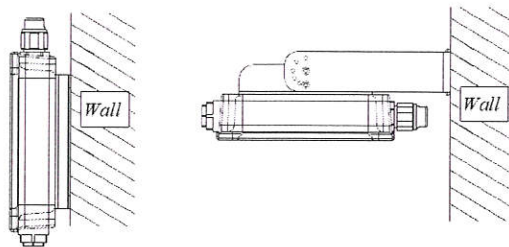
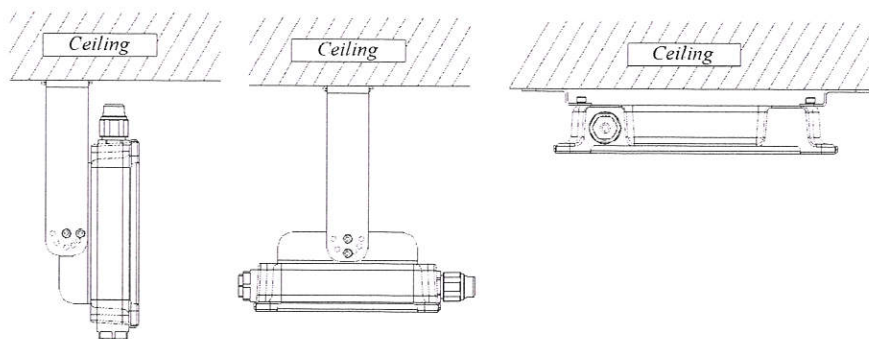

Figure 1
Figure 2
1. Insert the field wiring leads (2) through the conduit (not shown, provided in the field).
- The mount bracket is for the use of both Wall mount (Figure 1) and Ceiling mount (Figure 2).